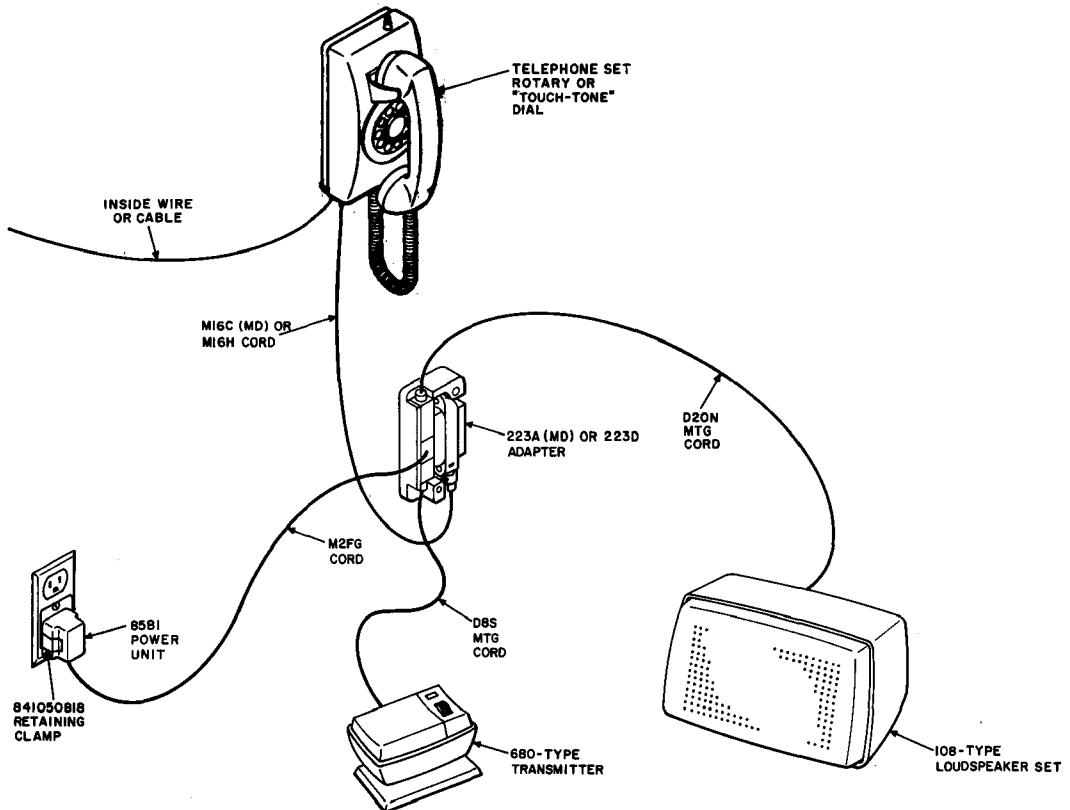
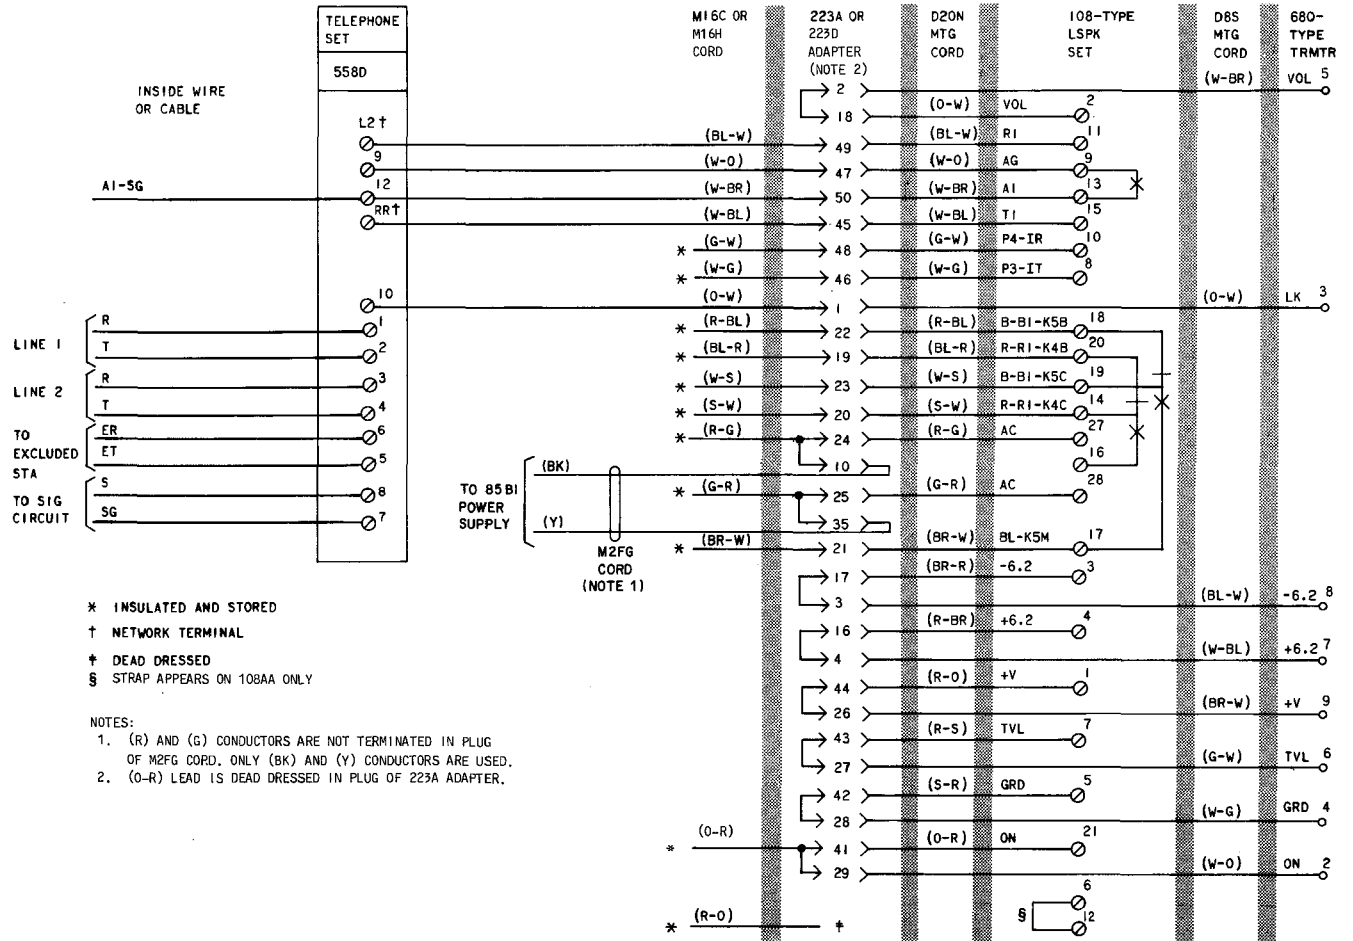

Fig. 1—Typical Grandfathered 4A Speakerphone System Arrangement, 558D, 558F, and 2558D Telephone Sets Using 223A (MD) or 223D Adapter
Fig. 3—Typical Grandfathered 4A Speakerphone System Arrangement, Connections to 558D Telephone Set
1.03 To provide 4A speakerphone feature at the 558- and 2558-type telephone sets, refer to Fig. 1 or 2 for layout arrangement of the components required for the system and Fig. 3, 4, 5, or 6 for individual lead connections.
2.04 Power shall be supplied by connecting 85B1 power unit as shown in Fig. 1 or 2.